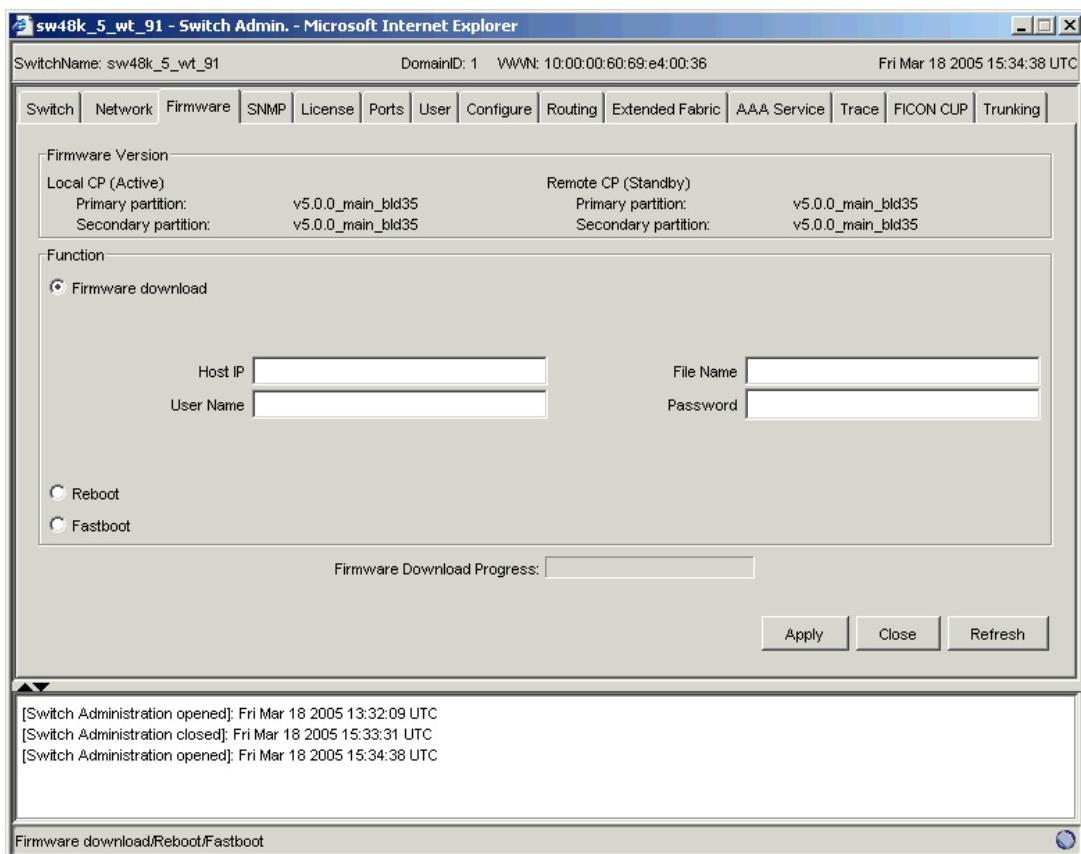

Figure 19 Firmware tab
2. Click the **Firmware** tab (see Figure 19).